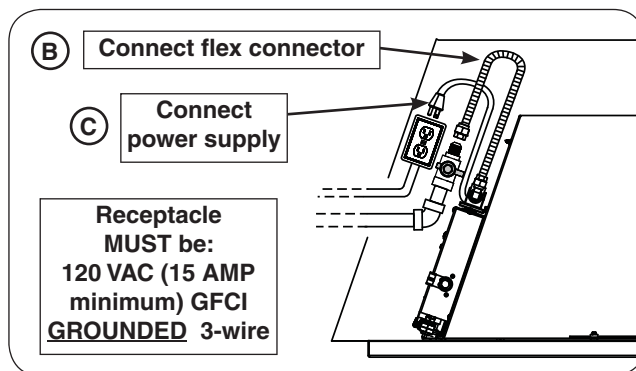

Fig. 26-2 Make gas & electrical connections
3. Connect a $\frac{3}{8}$ " C.S.A. approved stainless steel flex connector (not included) to the gas valve on the left side of the insert. Tighten securely. Then connect the open end of the flex connector to the previously plumbed gas supply / shut-off valve (see Fig. 26-2, B). Use a pipe compound resistant to all gasses on all male connections except brass to brass connections.
5. Connect the power supply cord coming from the left side of the unit to the previously wired **120 VAC (15 AMP minimum) GFCI GROUNDED 3-wire receptacle** (see Fig. 26-2, C).